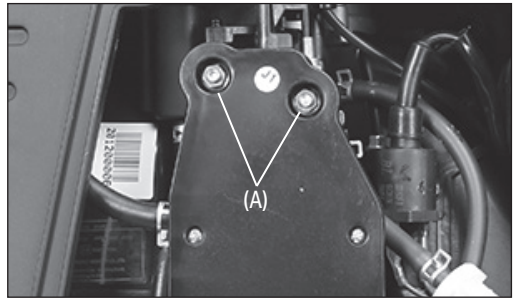

Fig. 16
3. Unscrew and remove the air filter (A) cover. (Fig.16).